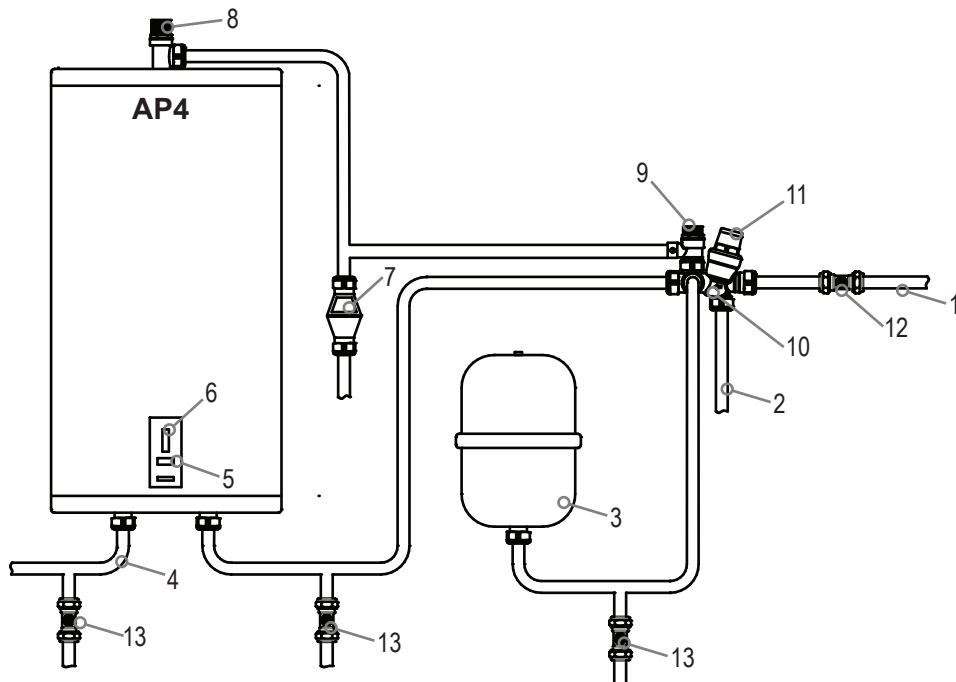

Fig 4
- In a closed, pressurised system (Fig. 4) pressurised mix taps should be used at the outlet points.